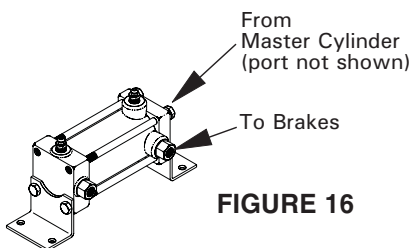

FIGURE 16
3. Connect the upstream line coming from the vehicle master cylinder to the fluid inlet port on the end of the single actuator. Connect the downstream line going to either the front or rear brakes from the side outlet port on the same end of the single actuator. See Figure 16.